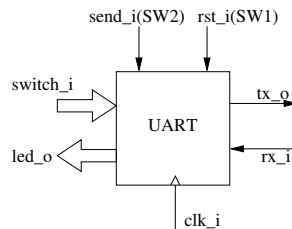

Figure 2.2: The UART.
The system clock of the zedboard is running at 100 MHz. You will need a reset-signal and a send-signal, see Figure 2.2. Both these signals are active-high.
- send an ASCII-coded character from the switches of the zedboard to the PC by pressing the button BTNU switch, see Figure 2.2.
- catch the incoming characters from `rx_i` and present the ASCII code on the LED display, see Figure 2.2.